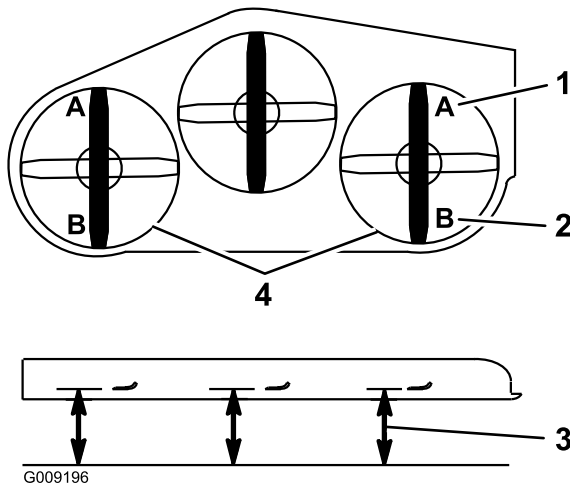

Figure 83
9. On both sides of the deck, measure from the level surface to the front tip of the blade (Postion A). The measurement should read 3 inches (7.6 mm) (Figure 83).
15. On both sides of the deck, measure from the level surface to the back tip of the blade (Position B). The measurement should read 3 1/4 inches (8.3 cm) (Figure 83).